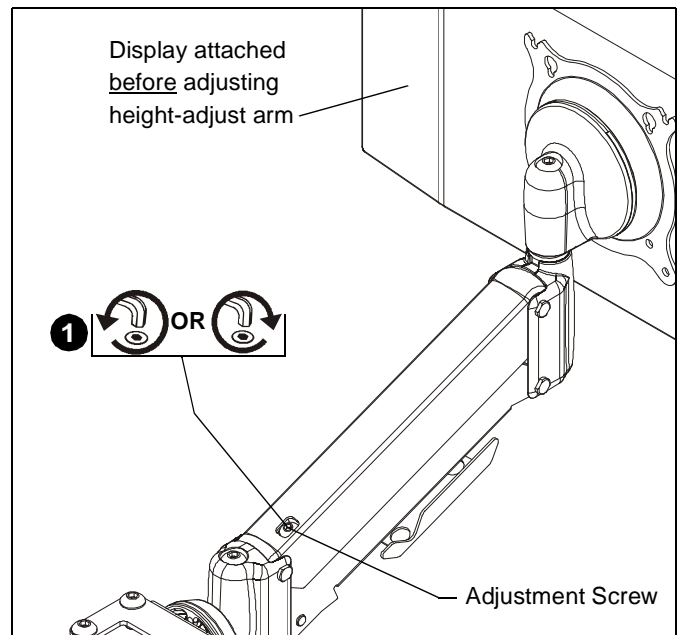

Figure 13
1. Using 5/32" hex key (N), slightly loosen or tighten the adjustment screw as necessary (See Figure 13).